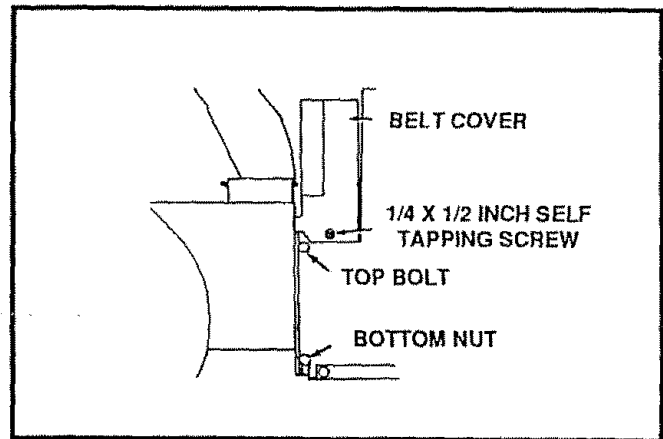

FIG. 29
- Remove the belt cover (See Fig. 29)
- Remove the top two bolts (See Fig. 29) holding the auger housing to the motor mount frame.
**NOTE:** It may be necessary to slightly loosen the bottom nuts (See Fig. 29) to get the auger housing and motor mount to pivot.